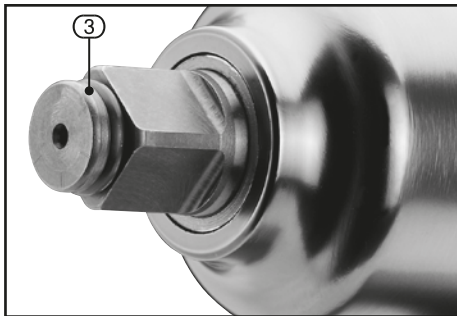

FIG.8
10.1 ANVIL – FIG. 8
- Ensure the anvil ring (3) is correctly maintained and if damaged or missing is replaced immediately before work commences.
- Ensure the socket correctly locates on the anvil firmly engaging on the anvil ring (3).